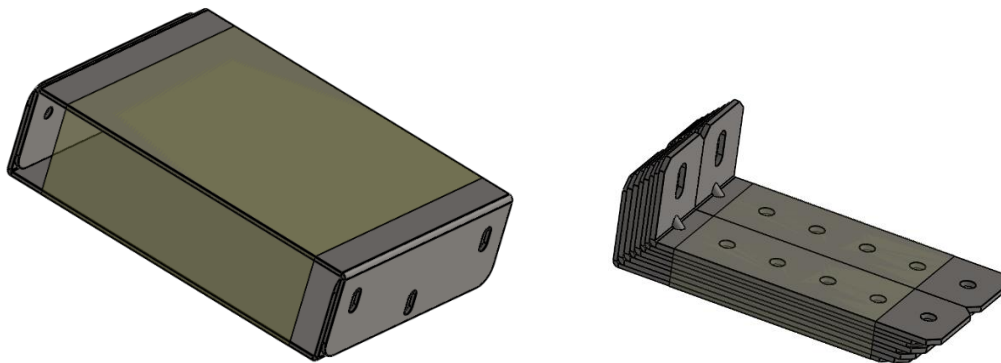

Figure 6 PROJECTION BRACKET PACKAGES
1. Find two packages of Projection Mount Brackets, and a bag with screws, nuts and Velcro strips. (Figure 6 PROJECTION BRACKET PACKAGE)